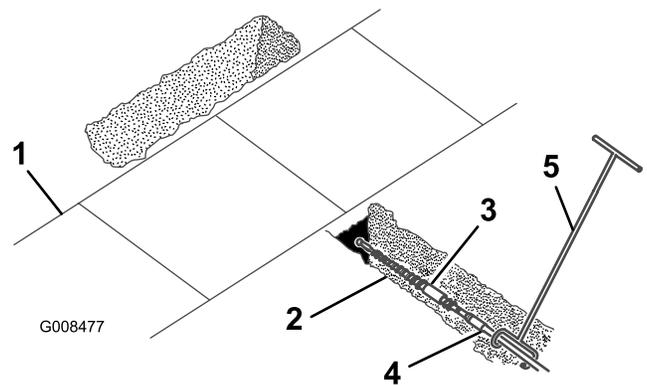

Figure 4
4. Connect the rod guide tool to the rod just behind the boring bit (Figure 4).
5. With the person guiding the boring bit positioned to the right of the trench (Figure 4), start the engine, move the pump selector valve to slow (turtle) (200 and 300 series traction units only), position the throttle to within the middle of the RPM range, and pull the auxiliary hydraulics lever rearward to start the forward rotation of the boring bit.
6. Slowly move the traction unit forward, while the person with the rod guide tool guides the boring bit into the soil (Figure 4).